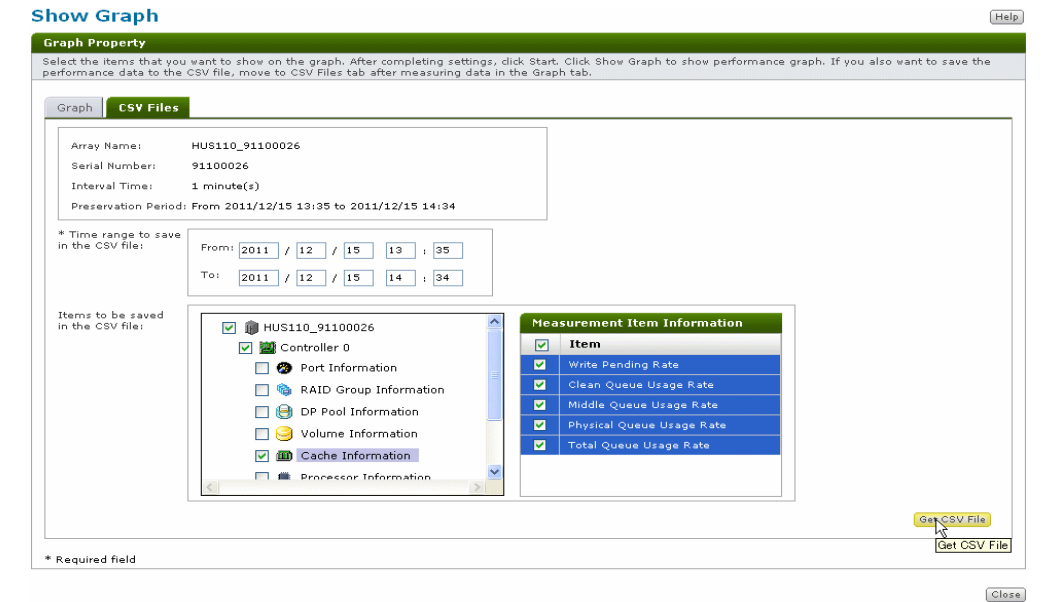

Figure 8-3: Performance Monitor window (non graph: Dynamic Provisioning enabled)
2. Select the appropriate item, and click **Show Graph**. The Performance Monitor Graph window appears (see Figure 8-3 on page 8-6).